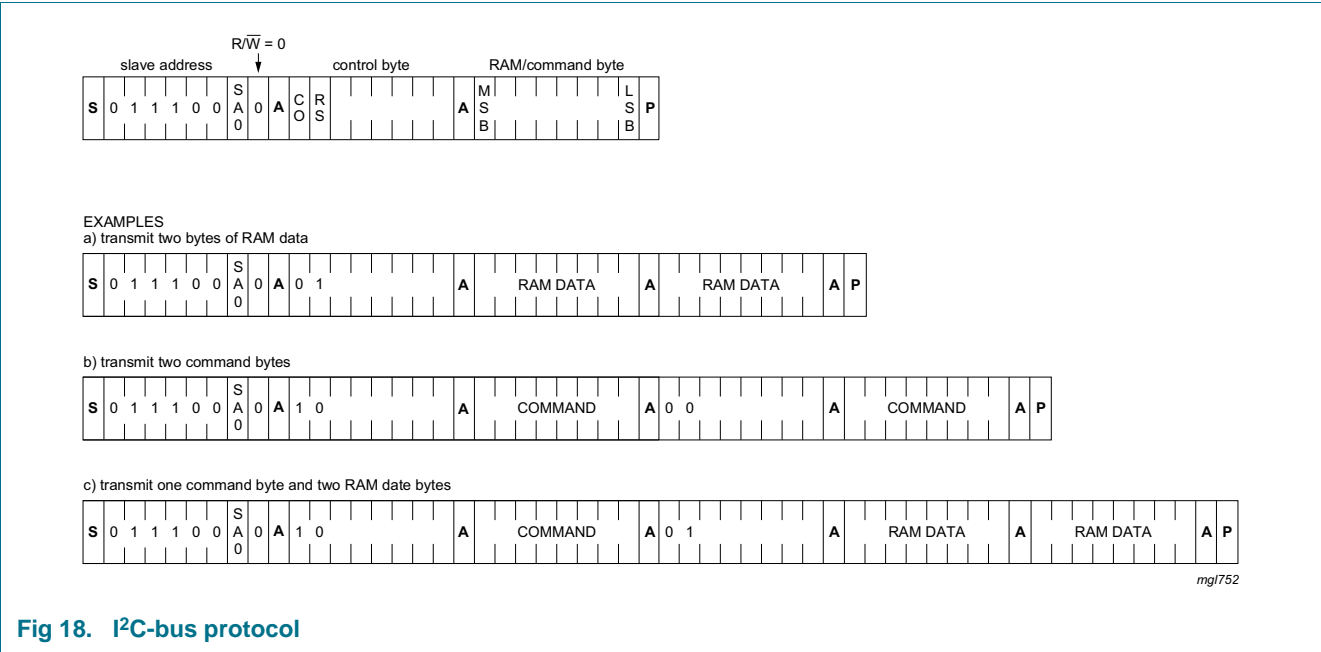

Fig 18. I²C-bus protocol
The I²C-bus protocol is shown in Figure 18. The sequence is initiated with a START condition (S) from the I²C-bus master which is followed by one of the available PCA85233 slave addresses. All PCA85233 with the same SA0 level acknowledge in parallel to the slave address. All PCA85233 with the alternative SA0 level ignore the whole I²C-bus transfer.